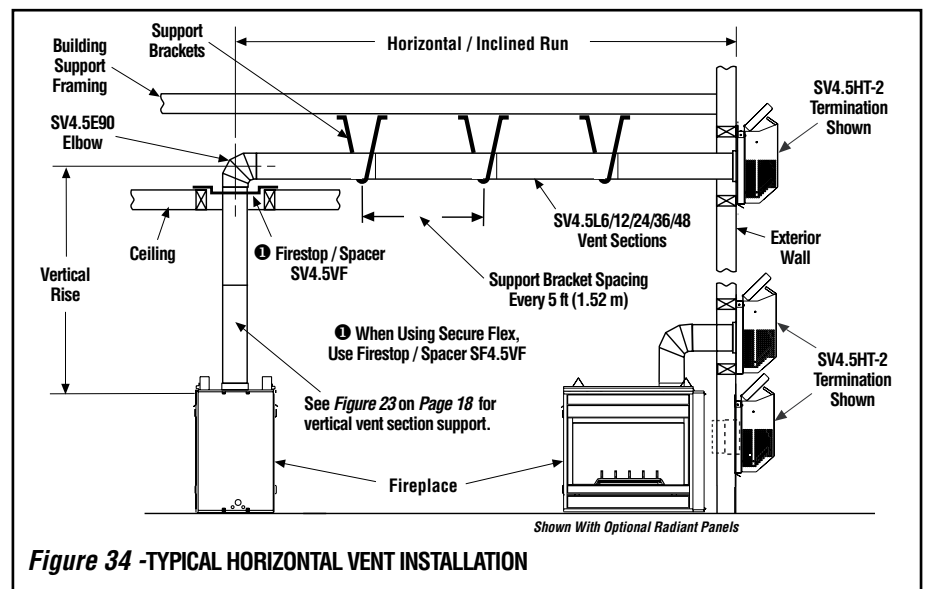

Figure 34 - TYPICAL HORIZONTAL VENT INSTALLATION
Figures 34, and Figures 37 to 42 on Page 24 to 26 and their associated Horizontal Vent Table illustrate the various horizontal venting configurations that are possible for use with these appliances. **Secure Vent®** pipe applications are shown in these figures; **Secure Flex®** pipe may also be used. A Horizontal Vent Table summarizes each system's minimum and maximum vertical and horizontal length values that can be used to design and install the vent components in a variety of applications.
I. Continue installation of horizontal/inclined sections - Continue with the installation of the straight vent sections in horizontal/inclined run as described in **Step E**. Install support straps every 5 ft. (1.52 m) along horizontal/inclined vent runs using conventional plumber's tape. See **Figure 34**, it is very important that the horizontal/inclined run be maintained in a straight (no dips) and recommended to be in a slightly elevated plane, in a direction away from the fireplace of 1/4" rise per foot (20 mm per meter) which is ideal, though rise per foot run ratios that are smaller are acceptable all the way down to at or near level. Use a carpenter's level to measure from a constant surface and adjust the support straps as necessary.